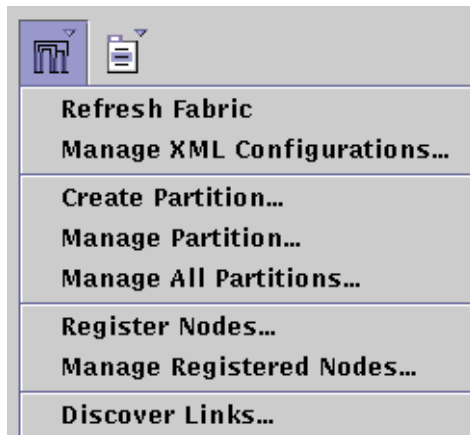

FIGURE 8-1 Fabric Menu Showing Discover Links Choice
- 4. Select the Fabric --> Discover Links command. See FIGURE 8-1.**